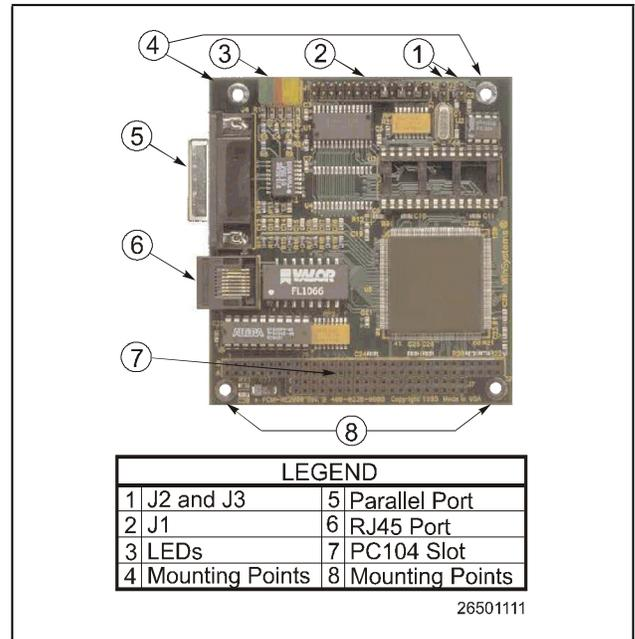

Figure 1-4 - NetCom Card Detail
4. Connect one end of a twisted-pair Ethernet cable to the RJ45 connector on the NetCom Card (see **Figure 1-4**). The other end of this cable is attached to equipment (hub or router) that provides connectivity to the LAN.